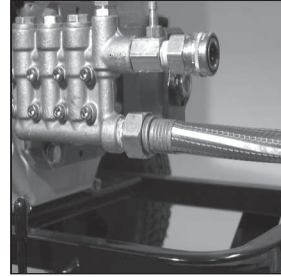

Figure 4
5. Connect water source to pump inlet — Figure 4.